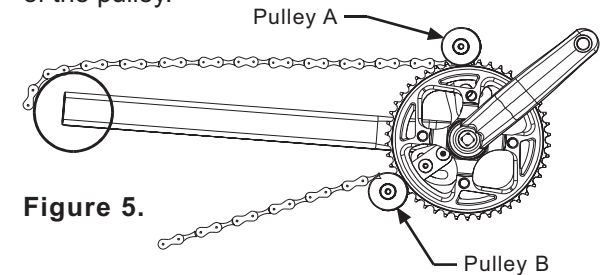

Figure 5.
**Figure 5** shows the correct placement of the guide arms and pulleys in relation to the bicycle chainstay. Pulley A is approximately located between the 11 o'clock and 12 o'clock position, this is the location where the chain and chainring teeth meet when the chain is in the largest cassette on the rear wheel and the suspension is fully compressed. Pulley B is located between the 7 and 8 o'clock position. Both pulleys should be placed so the chain and chainring are overlapped by the flanges of the pulley.